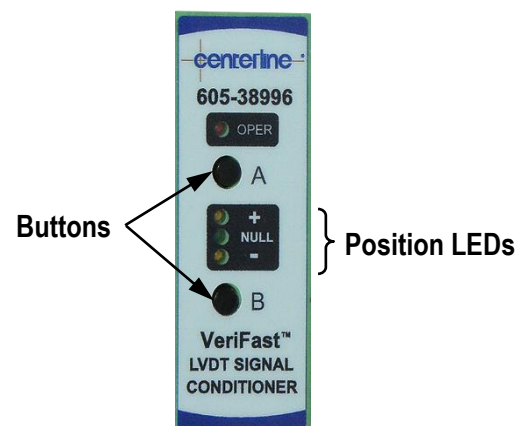

Figure 8 – LVDT Sensor Display and Operating Elements
**Note:** Calibration mode can be cancelled at any time by pressing the buttons 'A' and 'B' (see Figure 8 below) simultaneously for 3 seconds.
2. After system power-up, three (3) minutes of warm up time is recommended.
3. Enter the Calibration Mode by pressing both the 'A' and 'B' buttons (see Figure 8) until the OPER LED will begin blinking (3 seconds minimum).
**Note:** Calibration mode can be cancelled at any time by pressing the buttons 'A' and 'B' (see Figure 8 above) simultaneously for 3 seconds.
2. Ensure that the unit is warmed up for at least three (3) minutes (see step 2 in the previous section).